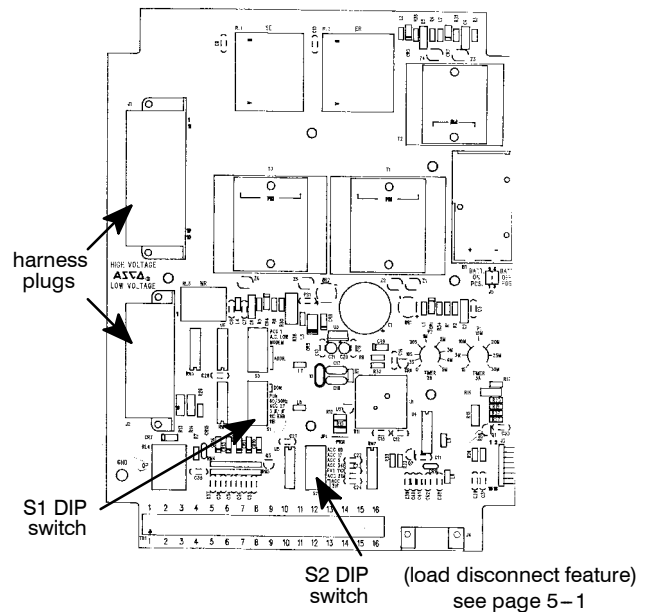
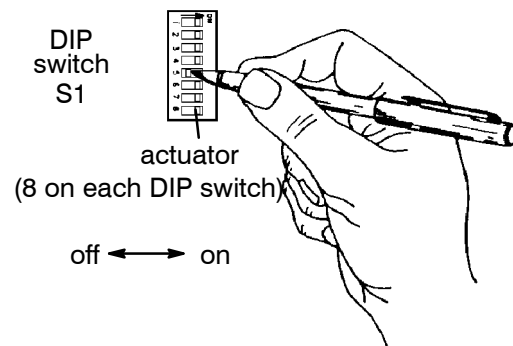

Figure 4-2. Location of DIP switch.
Figure 4-3. Setting DIP switch actuator.
4. Locate the appropriate adjustment DIP switch for the setting that you want to change. Refer to Table 4-1 above and Figure 4-2 and Figure 4-3.
5. Use a ball-point pen (or similar pointed tool) to slide the switch actuators left or right so they match the illustration next to the setting (left = off, right = on). Recheck the setting. See Figure 4-3.